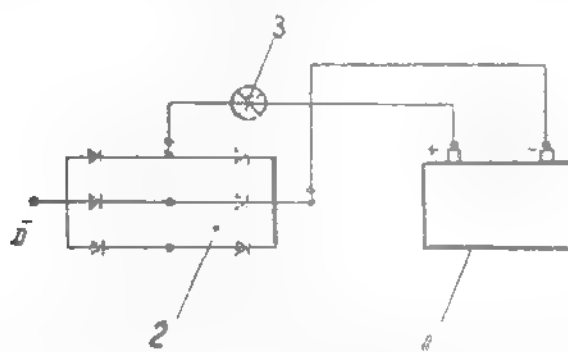

Fig. 4.42. CONNECTION DIAGRAM FOR CHECKING DIODES (TOWARDS THE ALTERNATOR TERMINALS) FOR INTERRUPTED CIRCUIT.
a) Connect negative terminal of the battery to the "B +" alternator terminal and the free terminal of the test lamp, in turn to the three terminals of the diode-holder assembly (see fig. 4.42).